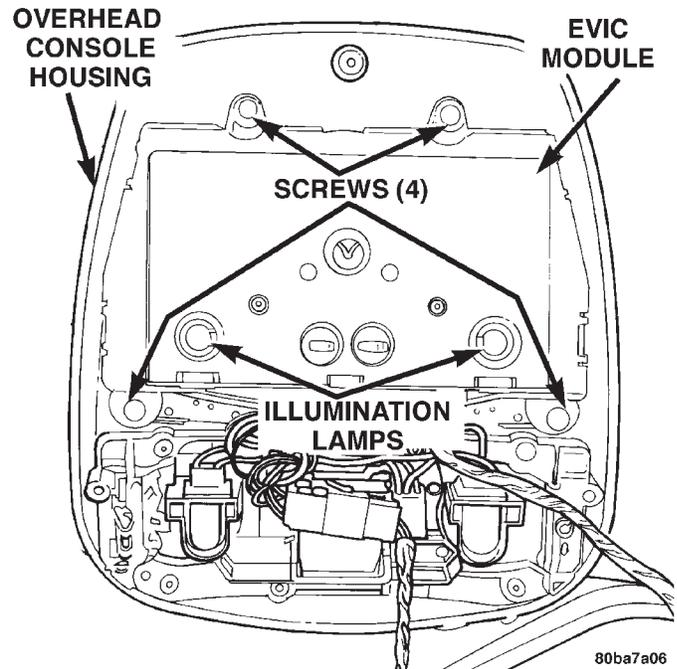

Fig. 4 Electronic Vehicle Information Center Remove/Install
- (1) Disconnect and isolate the battery negative cable.
- (2) Remove the overhead console from the headliner. Refer to **Overhead Console** in the Removal and Installation section of this group for the procedures.
- (3) Remove the four screws that secure the Electronic Vehicle Information Center (EVIC) module to the overhead console housing (Fig. 4).
- (4) Remove the EVIC module from the overhead console housing.